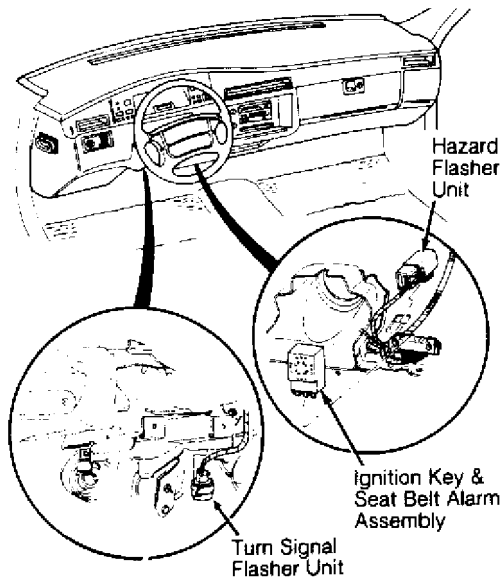

Fig. 18: Removing Turn Signal & Hazard Flashers
2) Remove 4 retaining screws from steering column opening bracket and remove. Locate turn signal or hazard flasher unit. See Fig. 18. Disconnect harness connector and remove desired unit. To install, reverse removal procedure.